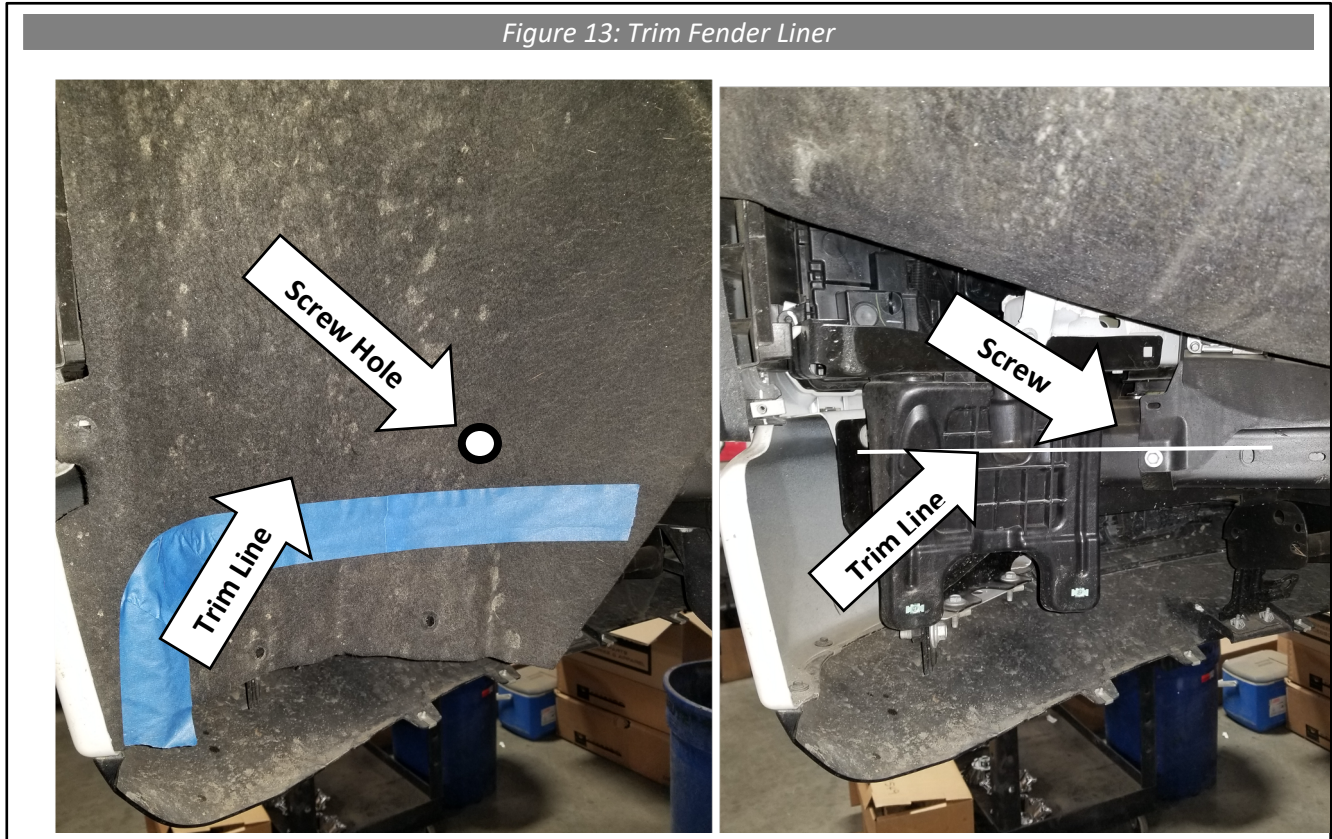

Figure 12: Remove Bolts and Plastic Bracket
- Remove the two screws holding the fender liner to the front of the wheel well in figure 1 and the ones near the plastic edge trim in figure 12. Then fold the fender liner up to allow access behind it and remove the 4 screws holding the plastic bracket shown in figure 12 with a 10mm socket.
8. Return the fender liner to its original factory position. Drill a small hole in it so the screw shown in figure 12 can be used to hold it down.